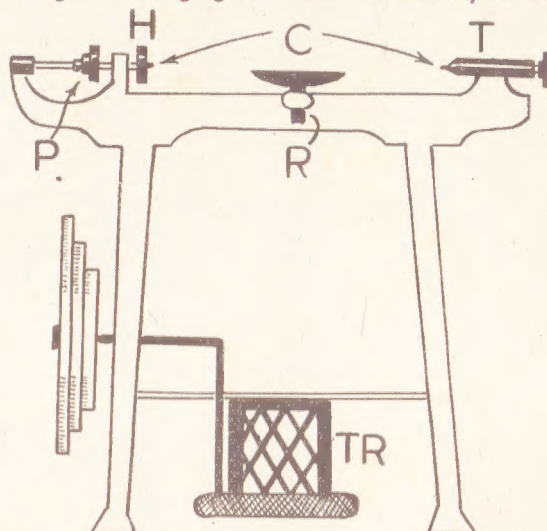

Fig. 1—A diagram of the main parts in all types
Lathes vary in size, layout, method of driving, and so on, but a front view of a typical simple machine is given at Fig. 1. This has a headstock (H) and a tailstock (T), each having a centre (C) between which the wood is held for turning. A movable tool-rest (R) can be moved along the top of the framework or 'bed'. Pulleys (P) are sometimes provided so that the lathe can be run from an overhead shaft, but the treadle (TR) is most commonly used as the driving force.